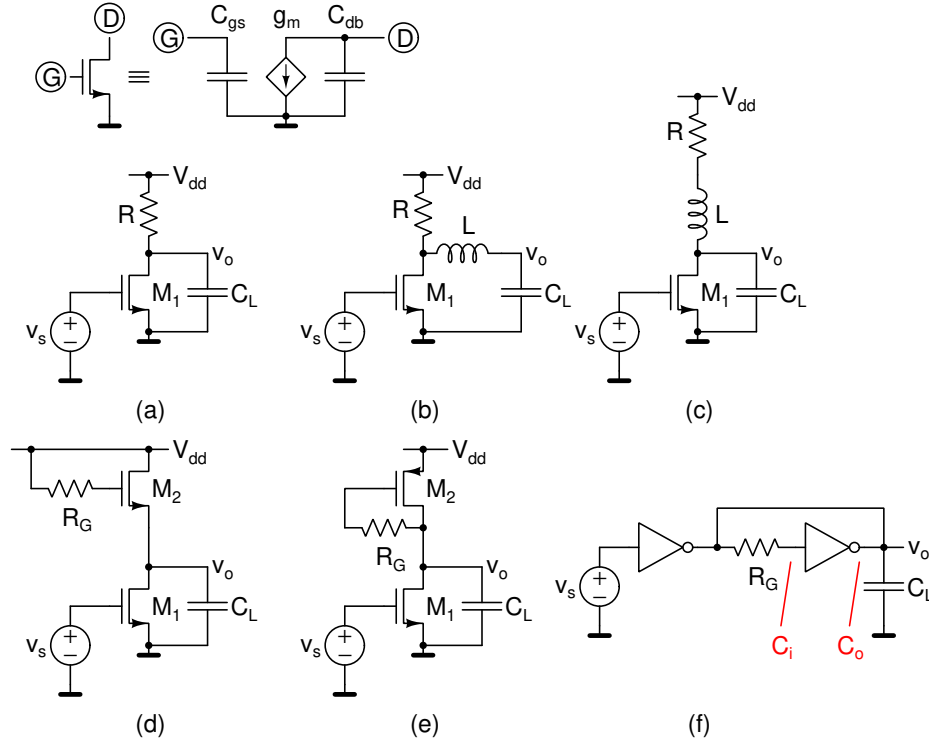

Figure 1.8: Problem 1.8.
- 1.8. Model the MOS transistors in Fig. 1.8 with their g_m , C_{gs} , and C_{db} .
- Determine the transfer function V_o/V_s and its -3 dB bandwidth (rad/s) in Fig. 1.8(a). Repeat the same for Fig. 1.8(d-f) with $R_G = 0$.
- Fig. 1.8(b, c) show L added to Fig. 1.8(a). Determine the transfer function V_o/V_s .
- Repeat the same for Fig. 1.8(d-f) with $R_G \neq 0$. Determine R_G for the highest bandwidth without peaking (see below).
- In Fig. 1.8(f), Determine the new -3 dB bandwidth (numerically) for two cases: $C_o = 0.5C$, $C_i = 0.5C$ and $C_o = 0.75C$, $C_i = 0.25C$ where C_o is the capacitance at the output node and C_i is the capacitance at the other end of R_g .